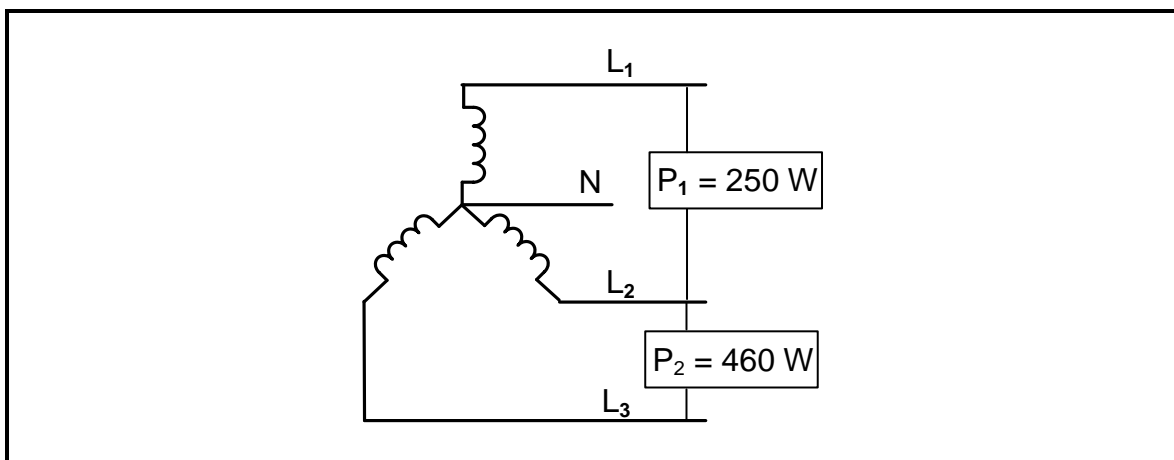

FIGURE 4.5: THREE-PHASE LOAD
4.5 Refer to FIGURE 4.5 below and answer the questions that follow.